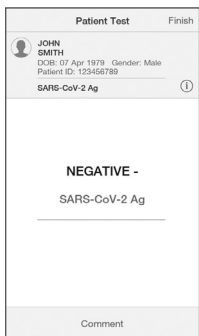

Fig 1: Negative result for SARS-CoV-2 Ag
4. **The result** will appear on the Instrument touchscreen within 12 minutes of applying the sample and starting the test. The results will be displayed as a positive or negative result SARS-CoV-2 Ag on the Instrument screen (see Fig 1 and Fig 2).